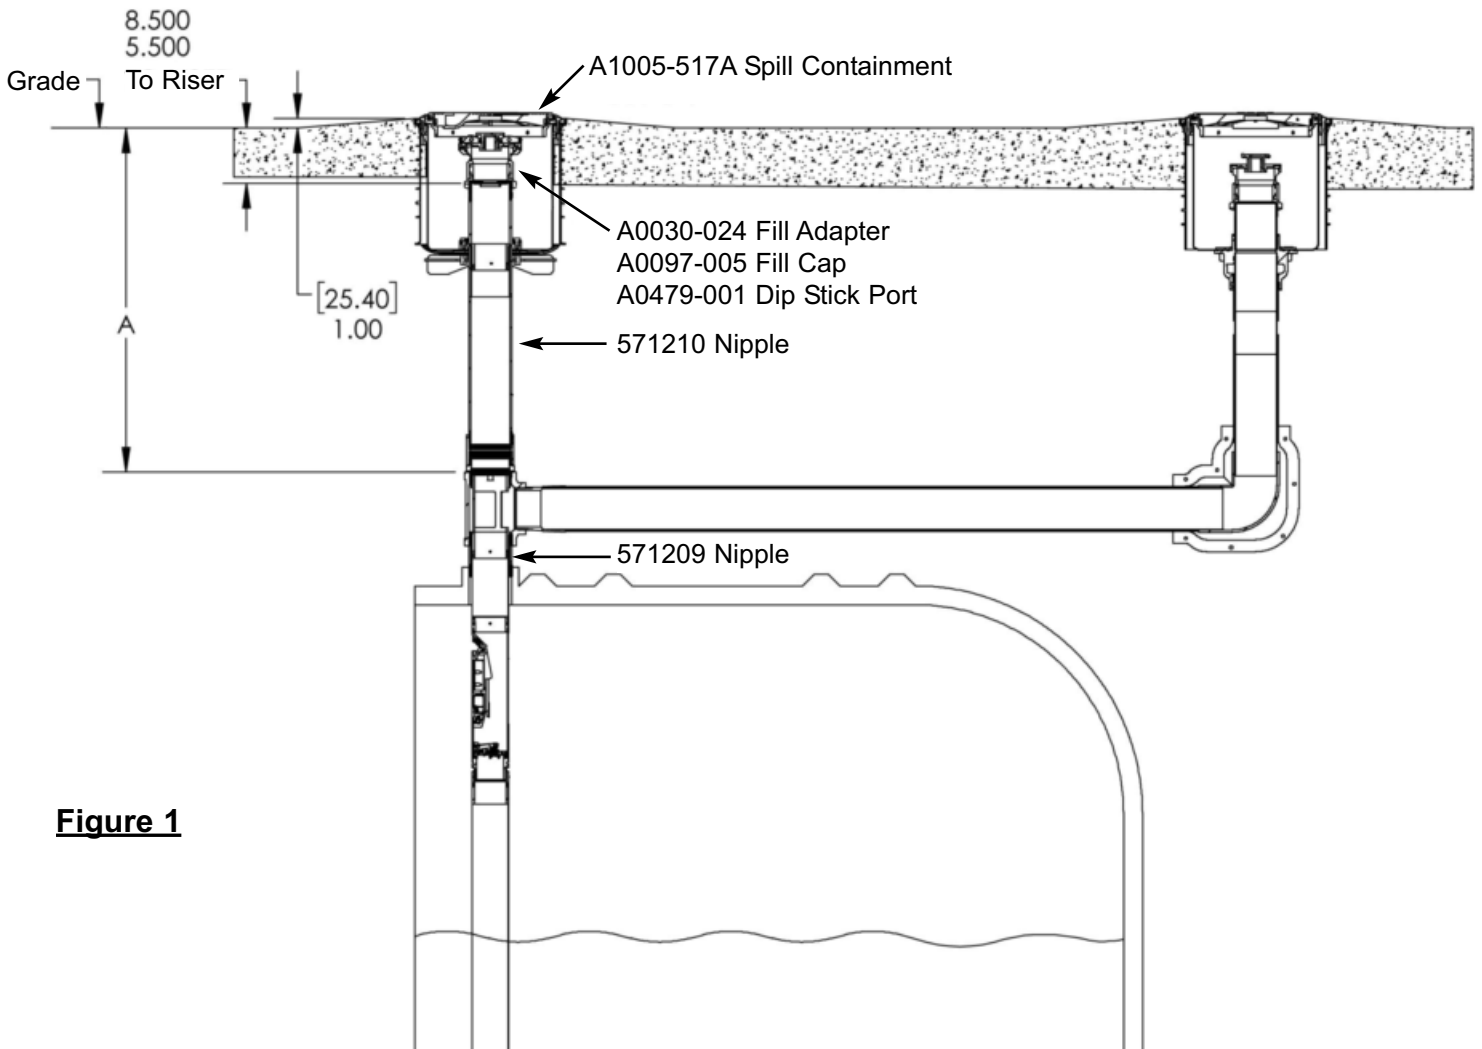

Figure 1
1.3A **Slip-On** (See Figure 1)